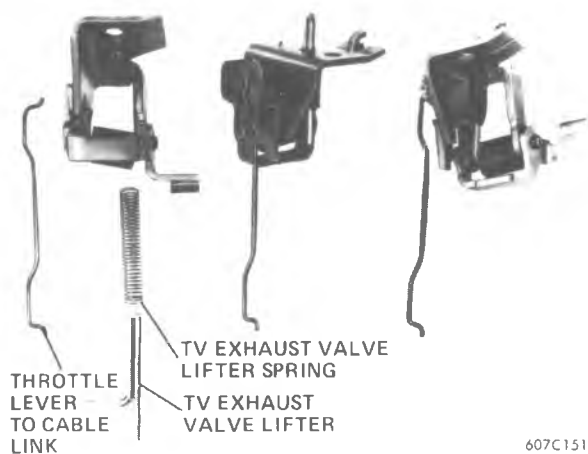

Figure 7A1-177 Throttle Lever and Bracket Assembly
3. Press solenoid lead wires into wire clips. (Figure 7A1-173B)